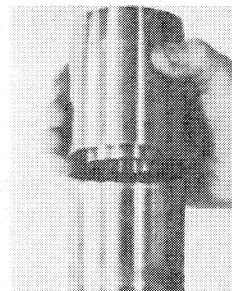

Fig. 11
3. Place reusable O-ring ramp on top of sleeve as shown in Fig. 11. The ramp will prevent O-rings from being damaged during assembly.